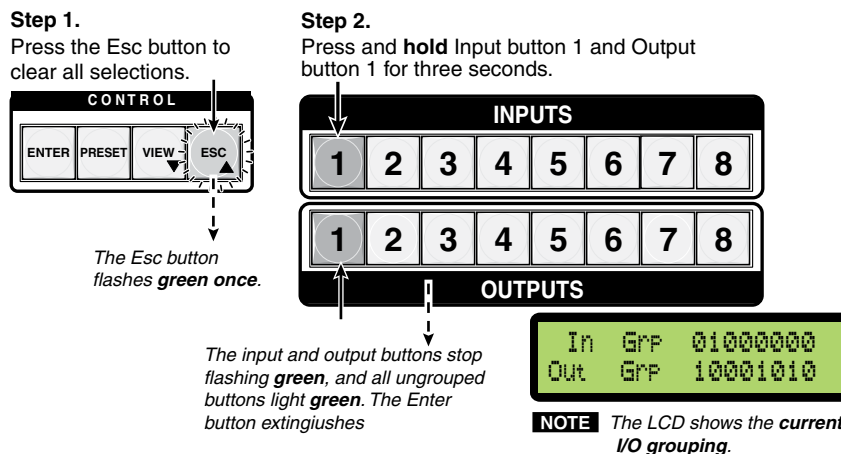

Figure 3-19 — Steps 1 and 2 for creating I/O grouping
1. Press Esc to clear all pending changes and reset the LCD (see figure 3-19).
2. Press and hold down the input and output buttons #1 simultaneously, for around 3 seconds (see figure 3-19). Those two buttons and the Enter button will stop flashing. All ungrouped buttons light steady green and the LCD screen displays the currently grouped input and output buttons, by their group number.